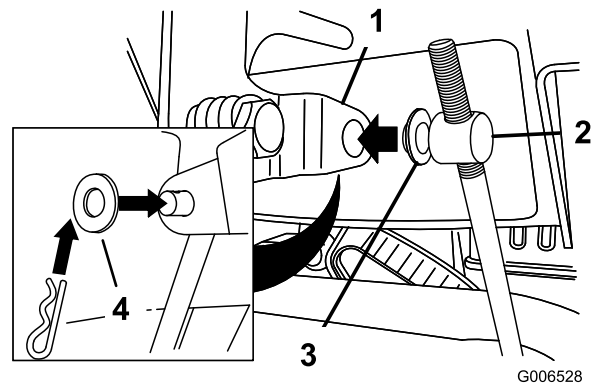

Figure 12
- Remove the hairpin cotter and the outer washer from the trunnion on the upper end of the speed-control rod (Figure 12).
**Note:** To make installation easier, leave the flat washer on the trunnion (Figure 12).
- Lift up the speed-control rod and insert the trunnion into the hole in the speed-selector lever (Figure 12).
- B. Disconnect the trunnion from the speed-selector lever (Figure 12).
- C. Turn the trunnion upward (counterclockwise) on the speed-control rod (Figure 12).
- D. Connect the trunnion to the speed-selector lever (Figure 12).